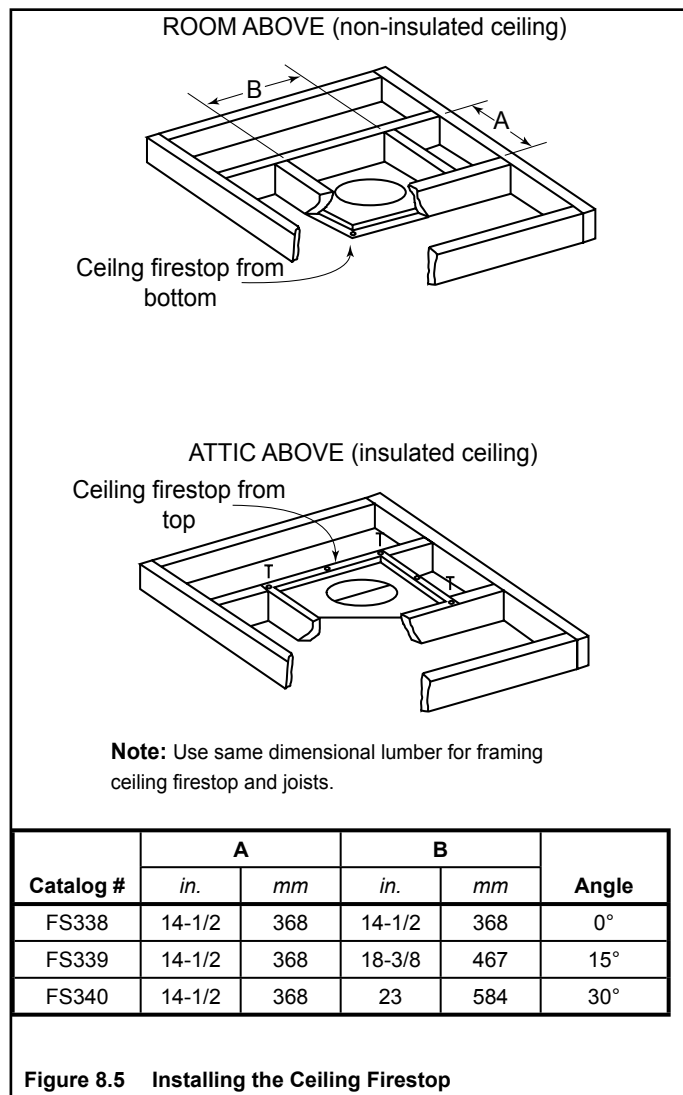

Figure 8.5 Installing the Ceiling Firestop
- Mark and cut an opening in ceiling as shown in Figure 8.5.